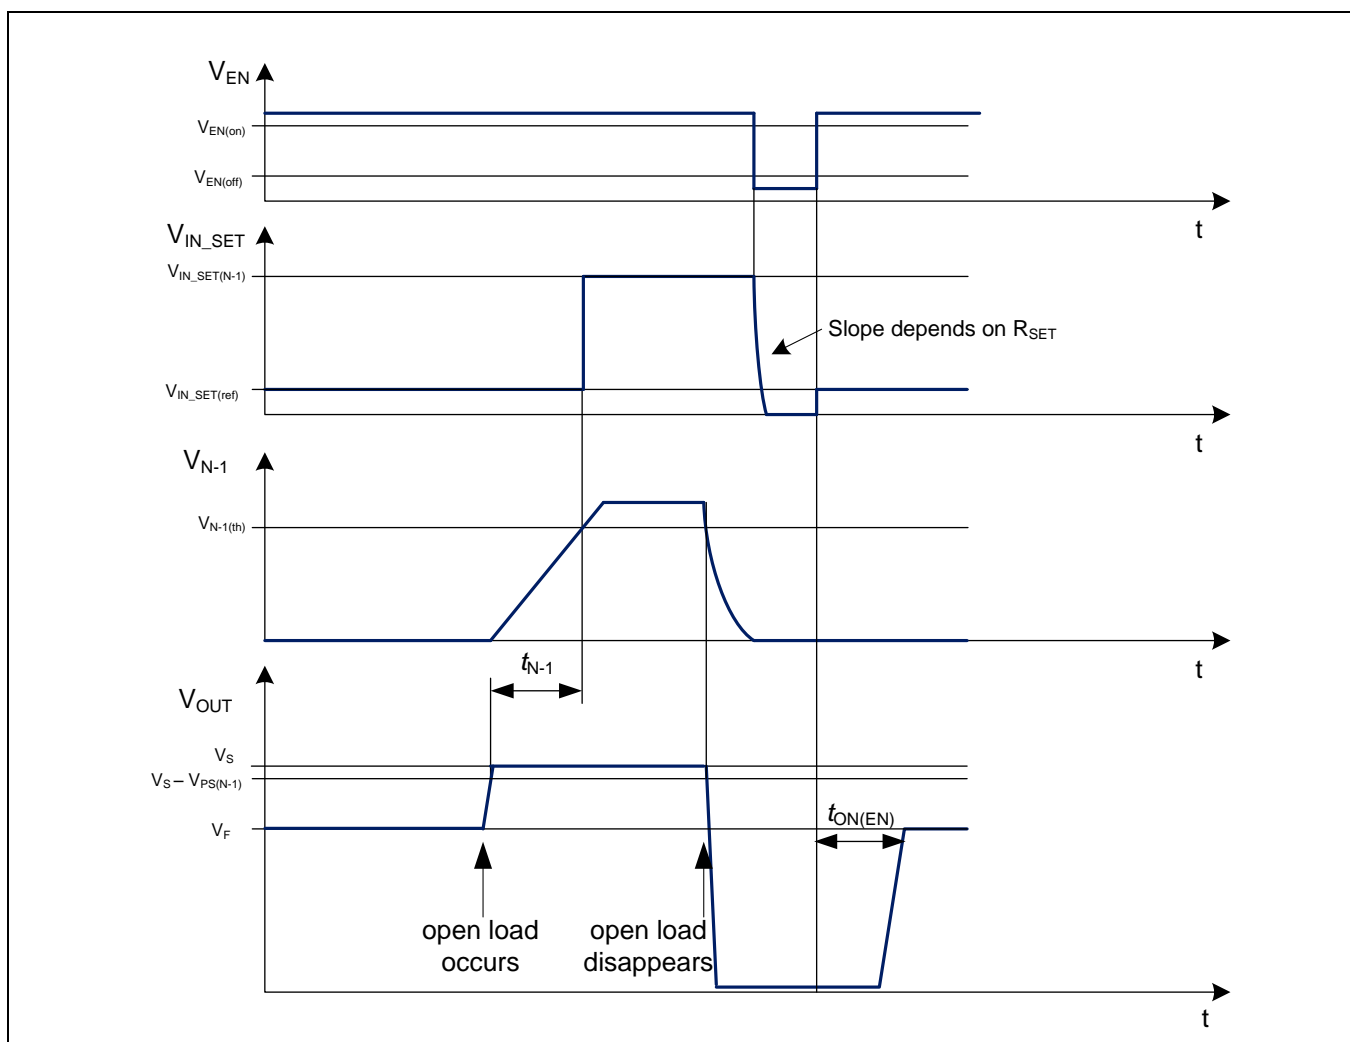

Figure 22 Fault timing during open load (ST pin grounded, IN_SET used for diagnostics)
- A capacitor is connected to the N-1 pin, to allow adjustment of the filter time used for N-1 fault detection. This filter time is illustrated as an example for an open load condition in Figure 22. The time is calculated using the equation below:
Figures 22 and 23 show the fault timing during an open load. The IN_SET or ST pin latches the fault until the EN (or V_S pin) is toggled and a POR is given.